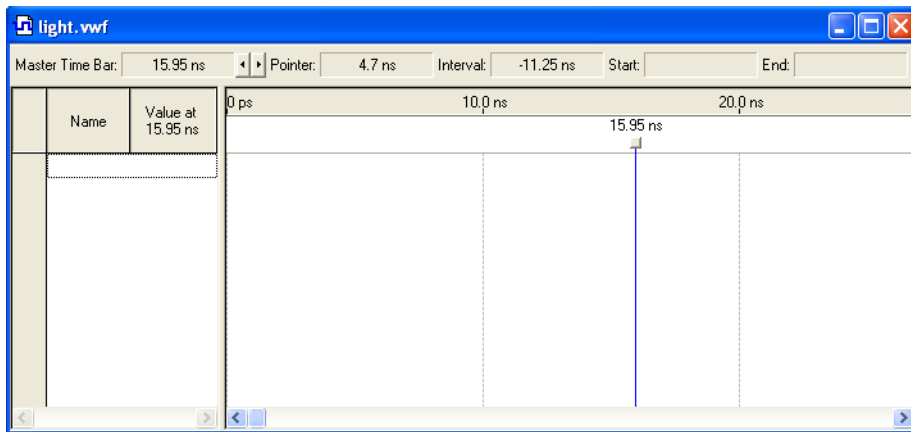
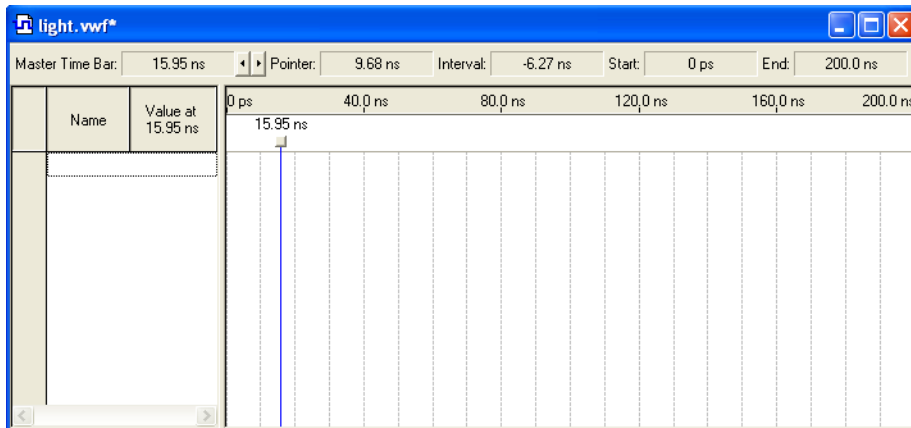

Figure 29. The Waveform Editor window.
Figure 30. The augmented Waveform Editor window.
2. The Waveform Editor window is depicted in Figure 29. Save the file under the name *light.vwf*, note that this changes the name in the displayed window. Set the desired simulation to run from 0 to 200 ns by selecting **Edit > End Time** and entering 200 ns in the dialog box that pops up. Selecting **View > Fit in Window** displays the entire simulation range of 0 to 200 ns in the window, as shown in Figure 30. You may wish to resize the window to its maximum size.